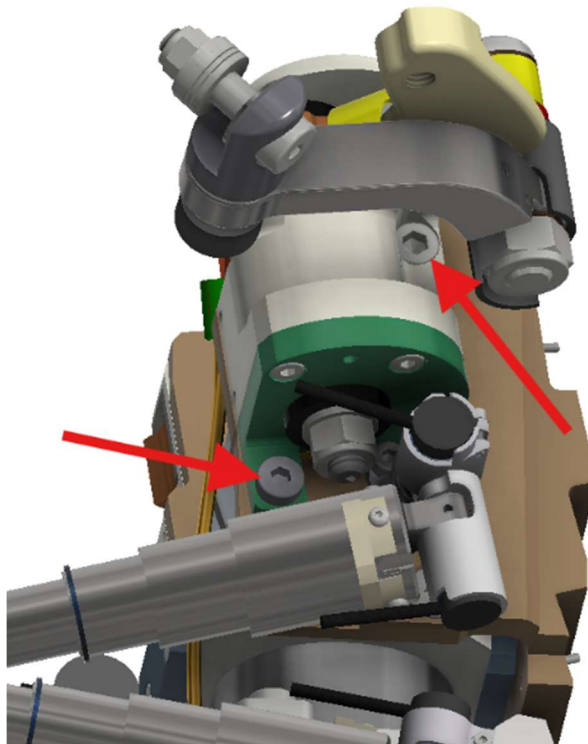

Figure 5-63. Insert two M6 X 1 X 16 LG. SHCS
5.3.27 Install the left Shoulder Assembly (474-3500-1-A) using two M6 X 1 X 16 LG. SHCS (Figure 5-63).